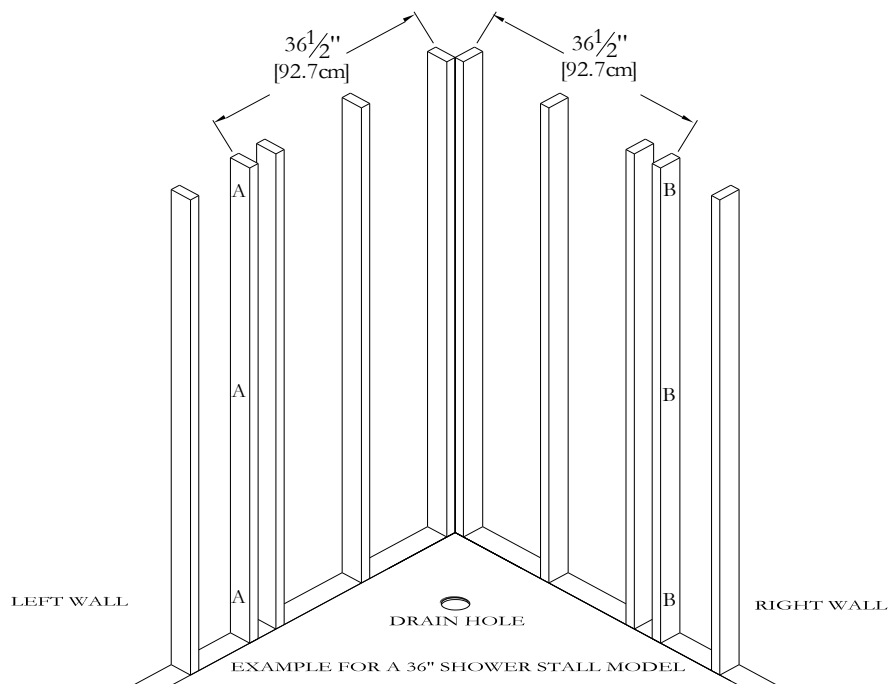

Figure 1
5. In order to secure your shower to the walls, you must install 2 two-by-fours (A-B) vertically, as shown on figure 1. Make sure they are leveled. The two-by-fours must be placed where the shower's outer lips touch the wall, for example on a 36" shower, the center of the two-by-fours will be at 36,5" from the corner (see figure 1). However, if the center of the existing two-by-four corresponds to that measure, you do not need to install new ones.